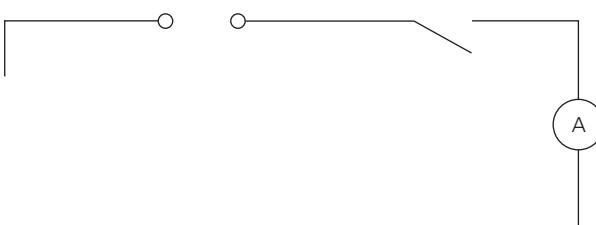

Figure 12
- f Complete the circuit diagram in Figure 12 to show that: